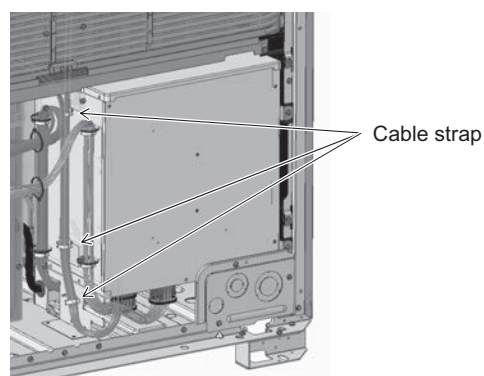

Figure 6
- (8) Remove the cable straps holding motor wiring. (See Figure 6.)